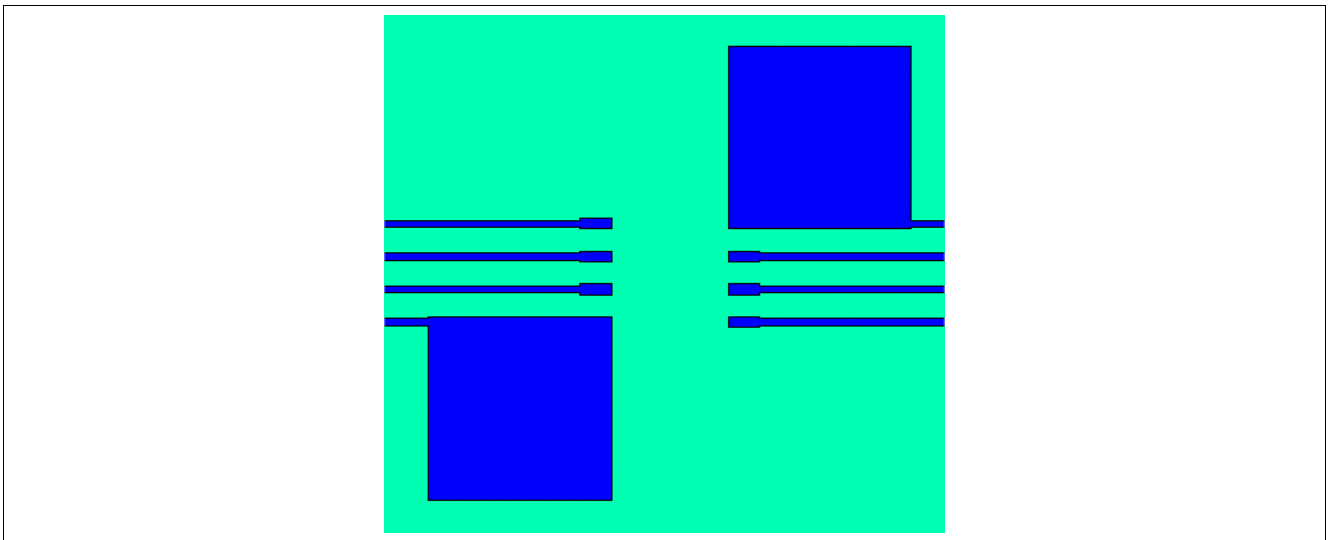

Figure 10 Reference Layout for Thermal Data (JEDEC 1s0p, 100mm², Copper thickness 35 μm)
2) See Figure 10 for reference layouts for these thermal data. Thermal performance may change significantly with layout and heat dissipation of components in close proximity.
The PCB layout shown in **Figure 10** represents the reference layout used for the thermal characterisation. Pin 4 (GND1) and pin 8 (GND2) require each a ground plane of 100 mm² for achieving maximum power dissipation. The Separate output variant for IGBT is conceived to dissipate most of the heat generated through these pins.